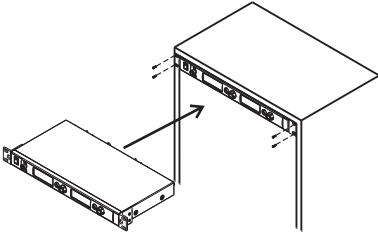

Fig. 6
3. For improving reception, an optional rear-to-front antenna cable installation through rackmount screw holes is highly recommended. Fig. 6